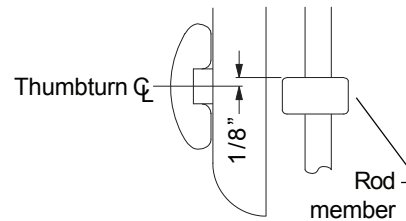

Figure 2. Rod member adjustment.
2. Loosen bottom locking screw (Figure 2).
10. Install bottom adjusting screw through bottom rod (Figure 2).
- E. Adjust rod member so top surface is 1/8" above the center line of the thumbturn (Figure 2). Tighten rod member socket set screws.